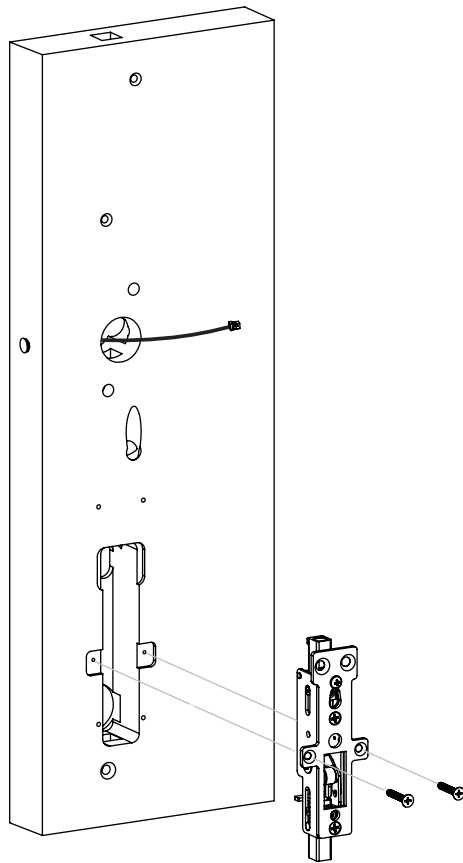

Figure 7-3A
1. Install the inner case assembly with two (2) #12x1" Phillips flathead screws (Figure 7-3A).